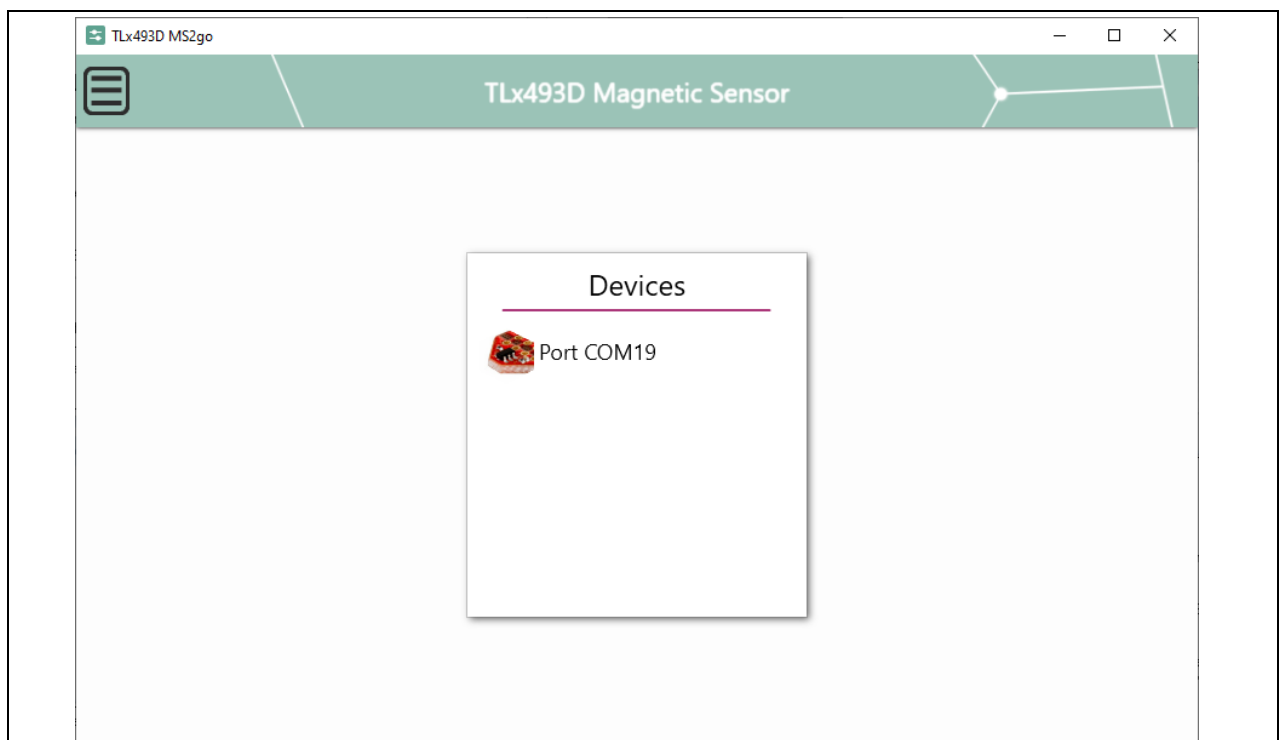

Figure 11 Establish the connection to the EvalBoard
2. Open the 3D 2Go GUI. Chose the COM port of the connected sensor PCB as shown in Figure 11 to establish the connection with the 3D Magnetic Sensor 2 Go kit. The first time you connect the board, a firmware will be downloaded to the XMC1100 which takes short time. This is indicated by the blinking power LED on the EvalBoard.